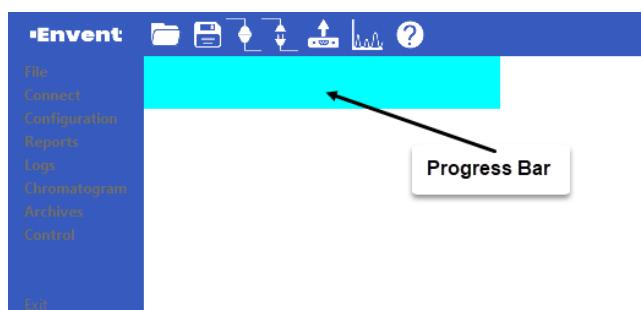

Figure 4: Progress Bar
Step 4 Click the analyzer name, COM-Port, or IP Address to establish a connection to the gas chromatograph. Envent’s GCS will automatically connect and read all parameters from the analyzer. Connection is complete once the progress bar at the top of the software finishes. See Figure 4 for reference. (A password may be requested if password access is configured.)